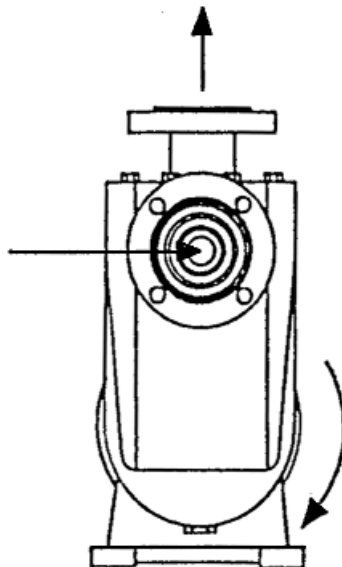

Figure 1: Direction and Port Location
4) When the pump is ready to run, bump start the motor to check rotation (*see Figure 1.*) Operating the pump in reverse rotation will result in reduced performance, and will damage the pump.